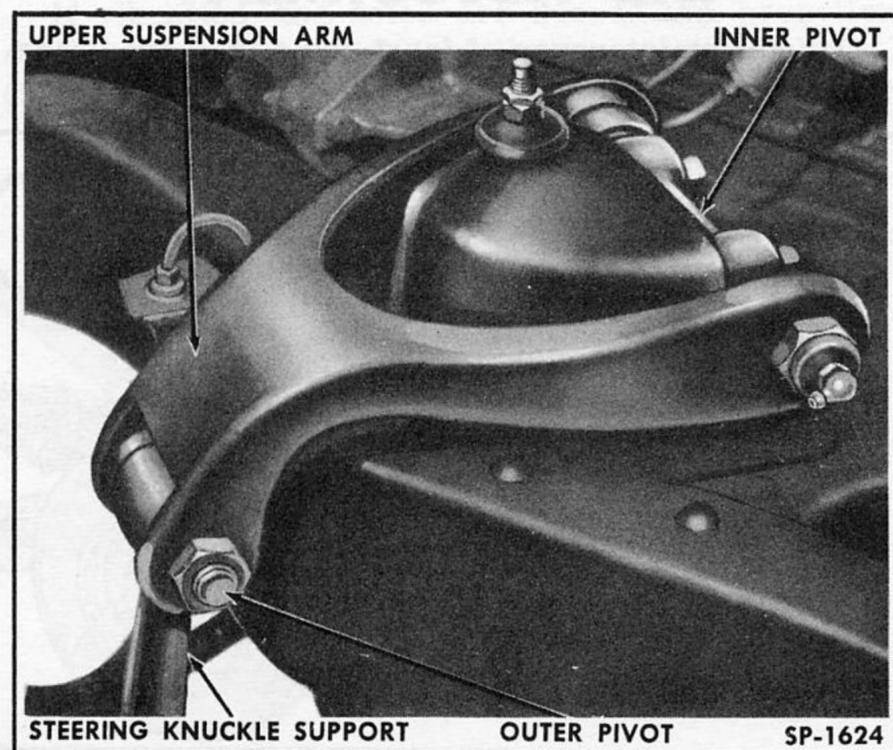

Fig. 159—Upper Suspension Arm
The pivot for the inner end of the upper suspension arm is bolted to the front shock absorber support as shown in Fig. 159. The pivot engages threaded bushings in the upper suspension arm. Use of shims between pivot and support will directly affect camber adjustment.
3. Remove bolts and washers attaching inner pivot to shock absorber support (Fig. 159). If shims are used between pivot and support, set them aside and be sure they are used in the same location when installing suspension arm.